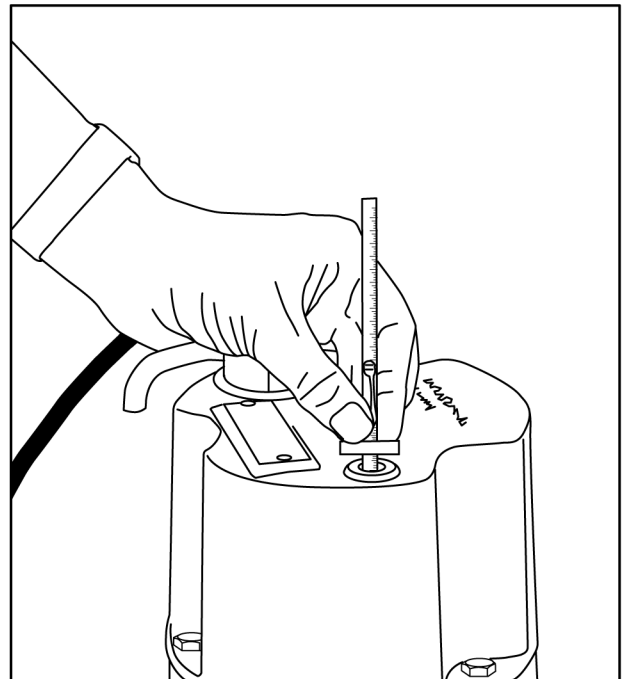

FIG. 13
6. Refill motor with Myers submersible motor oil, DON'T OVER FILL WITH OIL. OIL LEVEL SHOULD BE ONE INCH FROM TOP OF CASTING. Fig. 13
5. Replace capacitor housing and refill motor with Myers submersible oil. See Fig. 13 for oil level. One inch from top of casting.